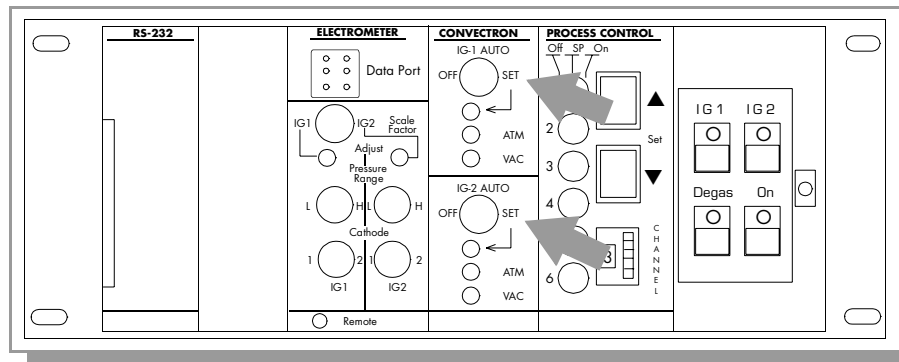

Figure 4-19 Control Unit Front Panel (with Door Open) Showing Ionization Gauge Auto Turn-On/Off Switches.
2. Place the AUTO switch for IG1 in the SET position. See Figure 4-19.